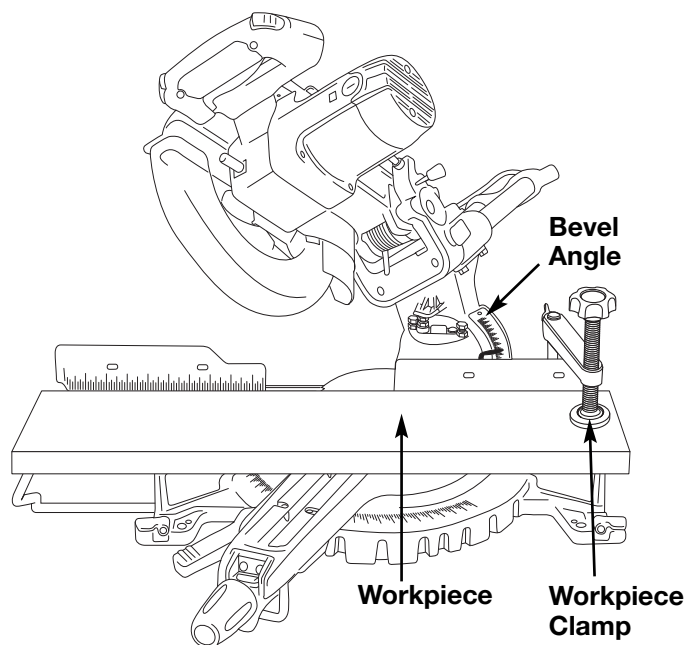

Figure 30. Compound Cut
1. Extend the sliding fence and work supports when making compound cuts that are mitered to the left (see Sliding Base/Fence Extension on pages 22-23). Select the desired miter and bevel angles (Figure 30). (See Miter Cut and Bevel Cut on page 25.)